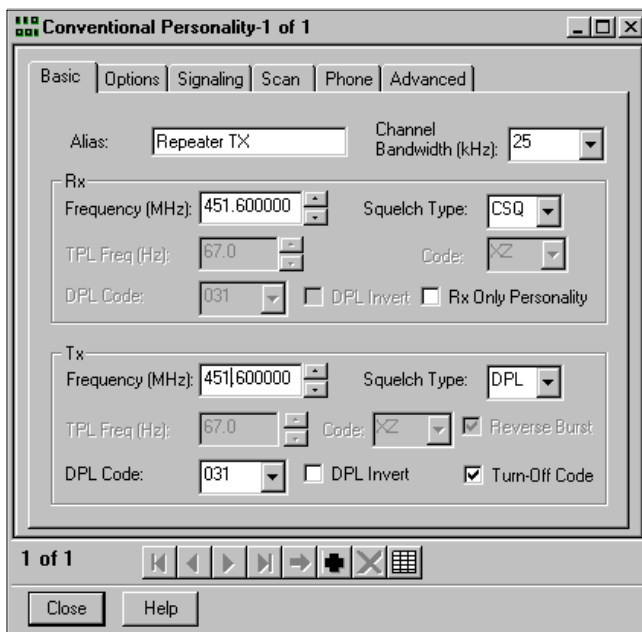

Figure 11-8. Conventional Personality, Basic, Transmit Radio
19. Select the transmitter “Squelch Type:” based upon the type of operation that is required (CSQ, TPL or DPL). Your screen should appear similar to Figure 11-8.